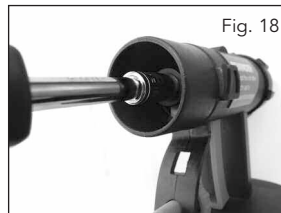

Fig. 18
1. Disassemble the paint head from the spray gun body by turning both the quick release knobs (3) on both sides of the spray gun to the "Unlock" position, pull and separate the paint head from the spray gun body.
2. Using a 8mm socket (not provided) unscrew carefully and remove the paint head plunger assembly from the rear of the paint head (Fig. 18).